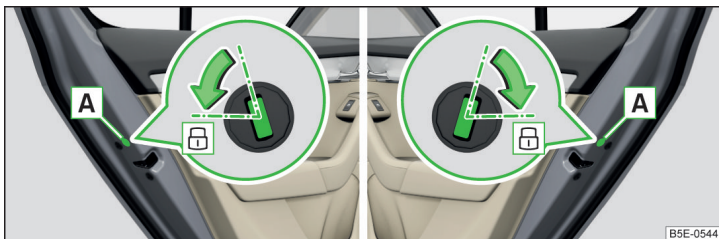

Fig. 226 Emergency locking: Left/right rear door
- Remove the panel **A** » Fig. 226.